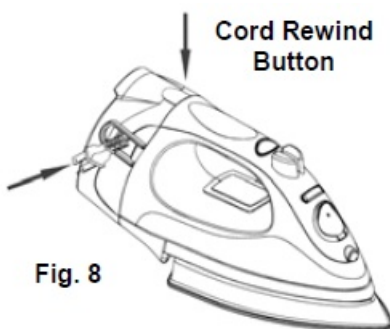

Fig. 8
7. The iron is equipped with a retractable cord. Press the cord rewind button to engage cord storage. (Fig. 8) If the cord does not fully retract, pull it out again and then press on cord rewind button.